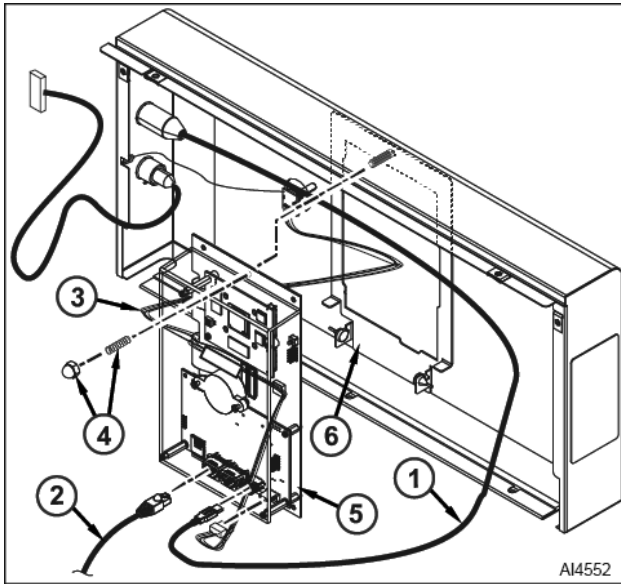

Fig. 5
3. Disconnect external USB cable (1, Fig. 5) from touch panel / display assembly.
4. Disconnect Ethernet cable (2, Fig. 5) from touch panel / display assembly.
5. Disconnect encoder cable (3, Fig. 5) from touch panel / display assembly.
6. Remove blind nut and spring (4, Fig. 5).
7. Tilt and lift touch pad / display assembly (5, Fig. 5) from bracket (6).